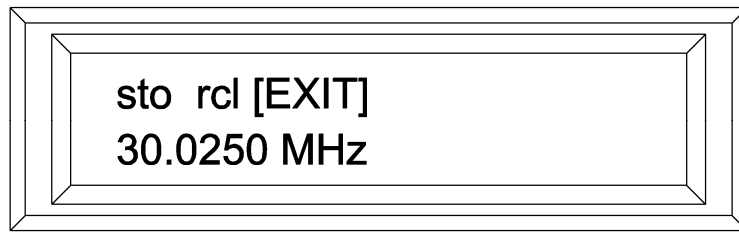

Figure 3.8. Display from the mem submenu.
Step 4. Push the “■” button and the memory submenu is shown (*figure 3.8*).